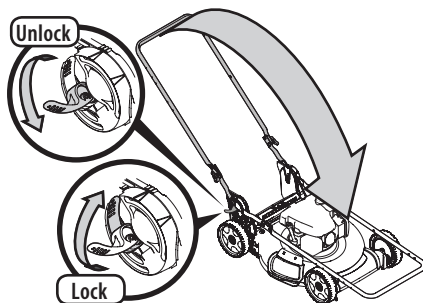

Figure 20
3. Unlock the two handle release levers. See inset Figure 20.
4. Fold the handle (b) forward to the storage position (Figure 20). Do not crimp blade control cable or the drive control cable (if equipped) while lowering the handle.
5. Lock the two handle release levers. See inset Figure 20.